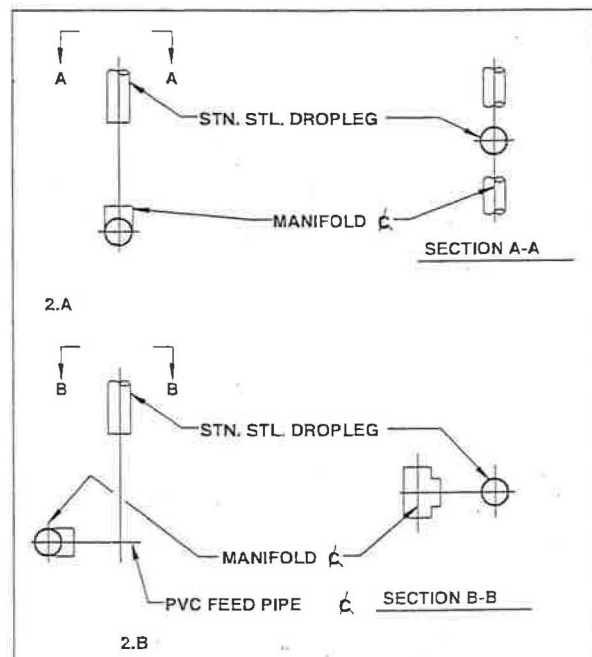

Figure 2
The dropleg connection on the manifold is a PVC socket tee or elbow. This connection can be located directly under the dropleg as shown in Figure 2.A or offset as shown in Figure 2.B. Review the erection drawings prior to manifold layout.
*Manifolds where the upper stainless steel dropleg is positioned directly in-line with the manifold connection as shown in Figure 2.A, **DO NOT** require a feed pipe, fittings and supports.*